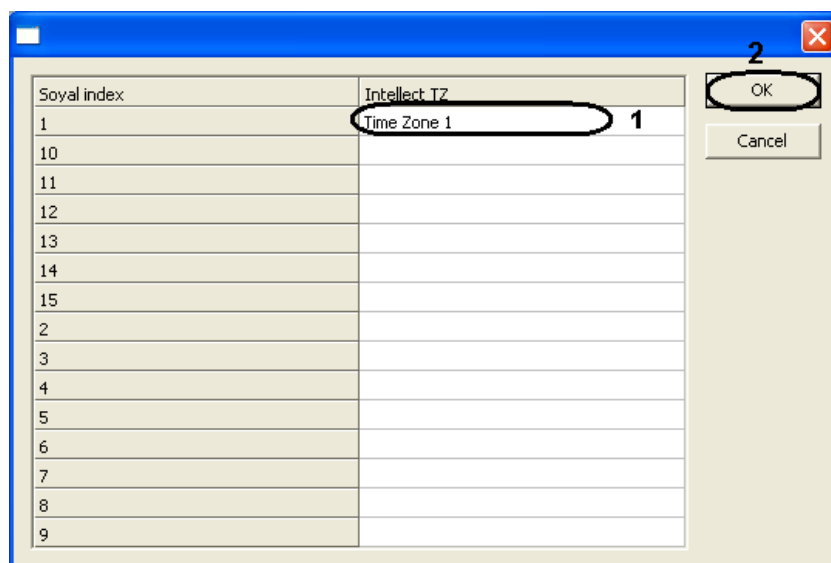

Figure 2.6—3 Setting up Time Zones
9. Click the **Sync time** to synchronize time on the *Intellect* Server and the *AR-725* controller (Figure 2.6—2, **8**).
10. Click **Set up Time Zones** to configure the matching between time zones of device and time zones of Intellect Server (Figure 2.6—2, **9**).
- 10.1 In the **Intellect TZ** column select the time zone in *ACFA Intellect* corresponding to the time zone of *Soyal* device (Figure 2.6—3, **1**).
- 10.2 Click **OK** to confirm changes (Figure 2.6—3, **2**).
- To save changes, click the **Apply** button (Figure 2.6—2, 10).